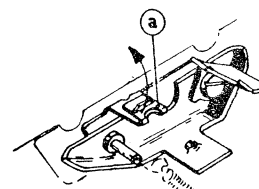

Fig. 16
6.4 In case flutter attains a higher level, modify the pressure on the sound head by slightly bending pressure device (a) against the sound head (fig. 16).